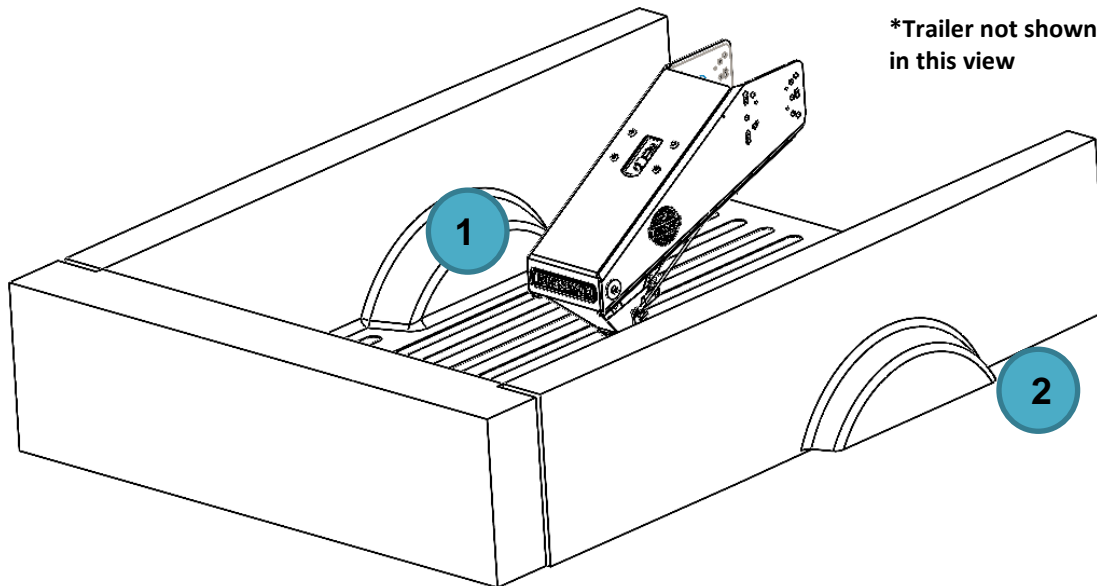

Figure 15
1. One person should be in the truck in order to fill the air valve (shown at position 1 of figure 15)
2. The second person should be standing outside of the truck watching the air inflation visual indicator. (Shown at position 2 of figure 15).